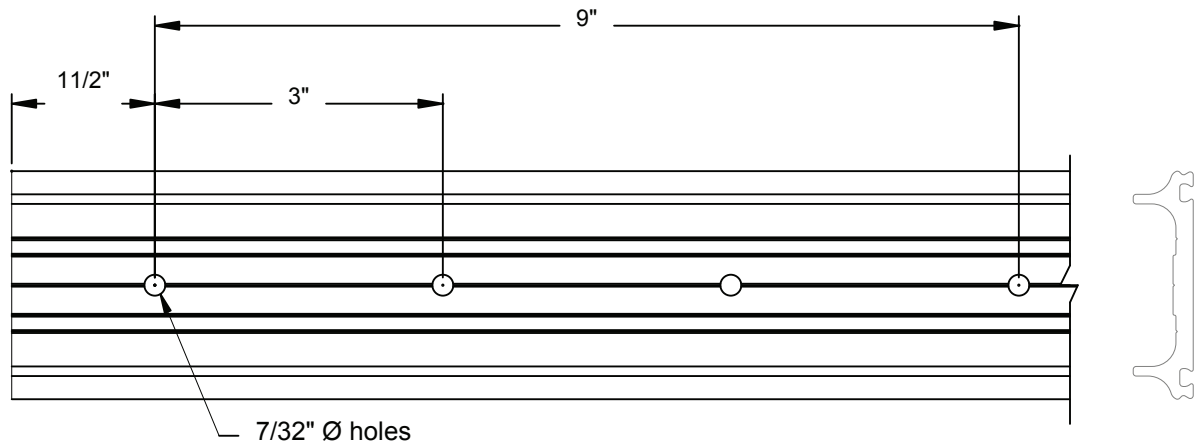

FIGURE 1
1.1 Pressure plate is pre-fabricated with 7/32" holes at 3" on center. Fasteners will be installed at 9" on center and should be located at maximum 1-1/2" from ends. Additional fasteners may be required based on project specifications. If additional holes are required use a 15/64" (.234) drill. (See notes below for drill bit recommendations) See FIGURE 1 Cut length of pressure plate will be mullion height for verticals and D.L.O. minus 1/4" for horizontals.